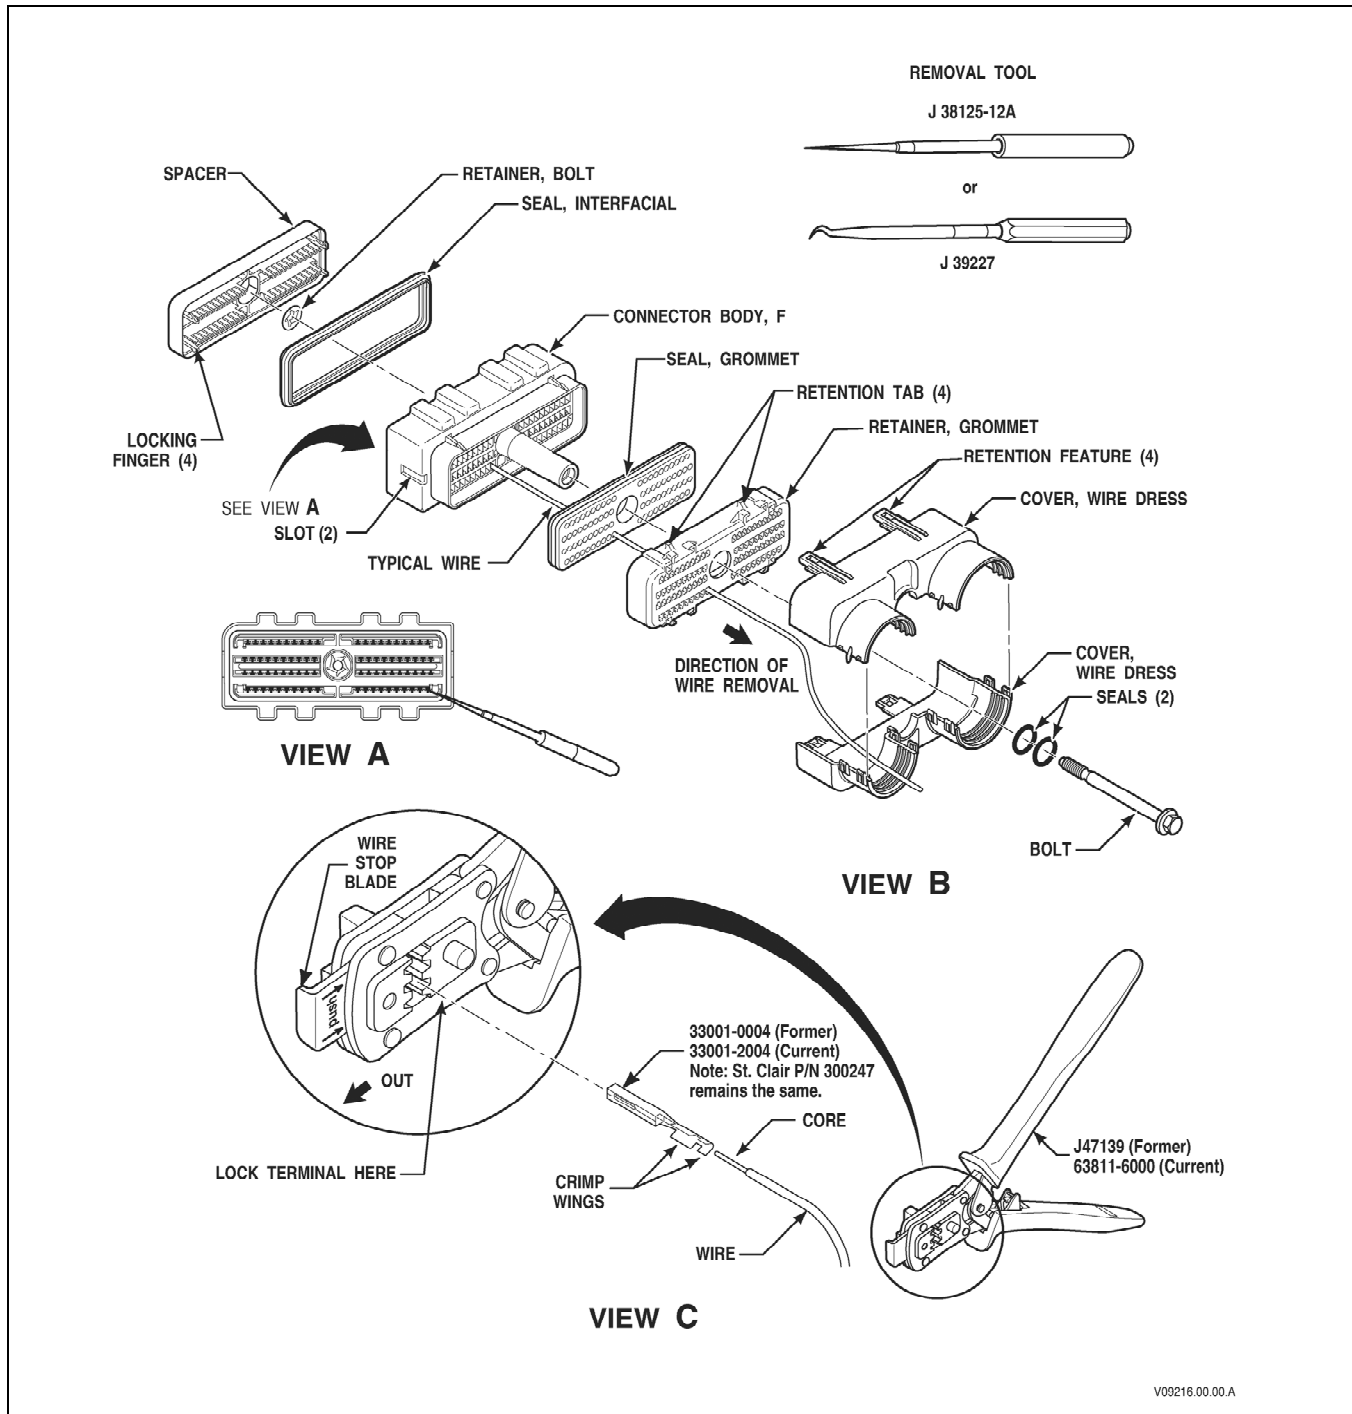

Figure G-1. AFL 80F Bolt-Assist TCM Connector
A. AFL 80F Bolt-Assist TCM Connector (Figure G-1).
7. Insert the metal blade of J-38125-12A or J-39227 removal tool into the small hole in the front of the connector body above or below the desired terminal/wire lead cavity location (refer to Figure G-1, Figure G-2, or Figure G-3, View A).
2. Refer to Figure G-1, Figure G-2, or Figure G-3, View C. Pull out the wire stop blade of the crimping tool so it is clear of the terminal crimp area. Place the terminal all the way into the appropriate wire size opening of the J-47139 (former) or 63811-6000 (Molex P/N, current) crimping tool until it contacts the stop and is properly oriented. Squeeze the handle enough to keep the terminal in place in the tool but not enough to compress the crimp wings.